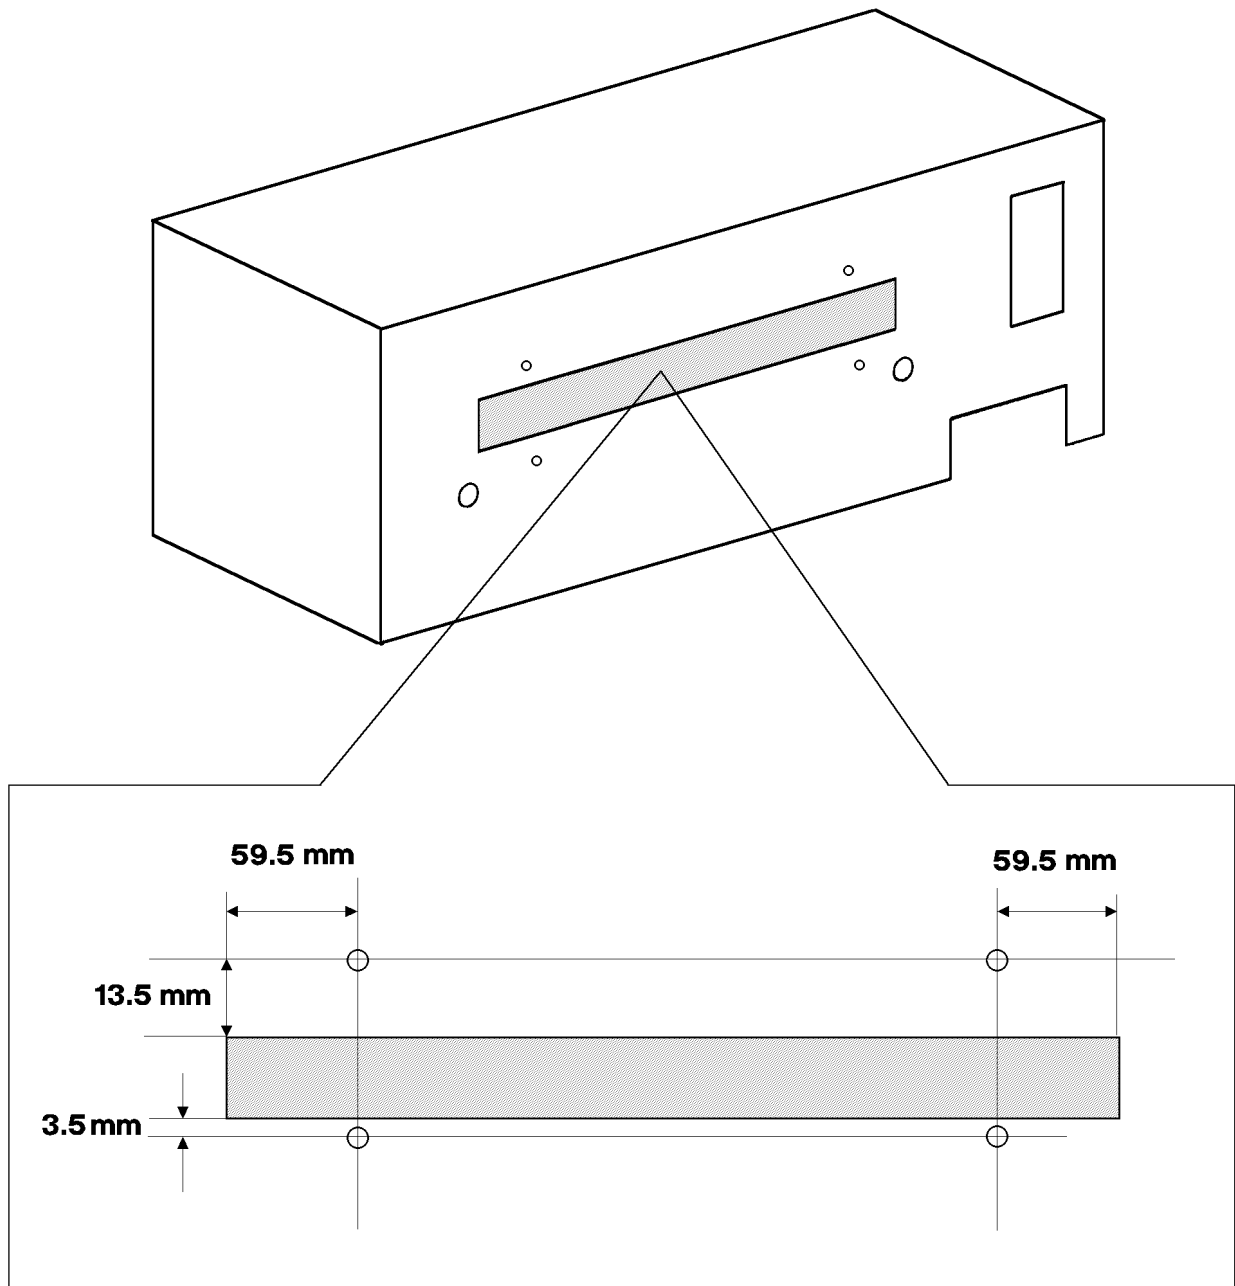

figure 2
5. Mark the 4 holes as shown in figure 2.